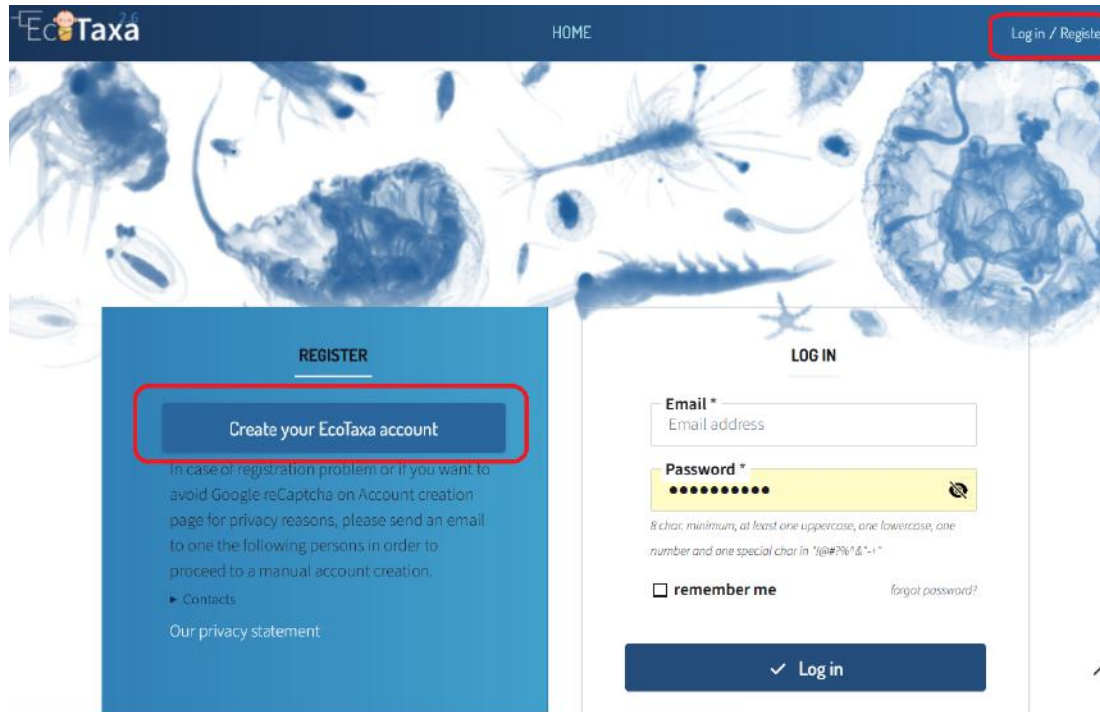

Figure 1: Log in/Register interface.
- Create an account on EcoTaxa (<https://ecotaxa.obs-vlfr.fr/>) by clicking on the top right "Log in/Register" then on "Create your EcoTaxa account" (Fig.1).